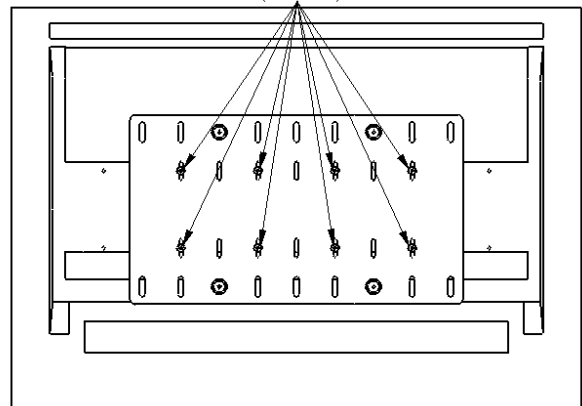

Figure 7. Display with 300mm x 100mm Hole Pattern
2. Attach the MSB-V (10) using the hole-pattern on the back of your display as shown in Figure 7.